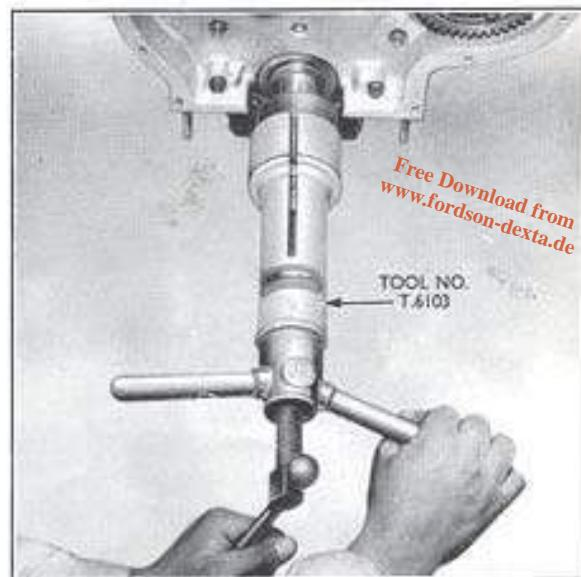

Fig. 16
3. Screw the centre bolt of the crankshaft gear replacer (Tool No. T.6103) into the adaptor and fit the semi-circular key locator (T.6103-1 b). The boss on the outside of the key locator must be fully entered into the slot on the tool body, and the slot on the inside of the locator must locate over the key in the crankshaft (see Fig. 16).